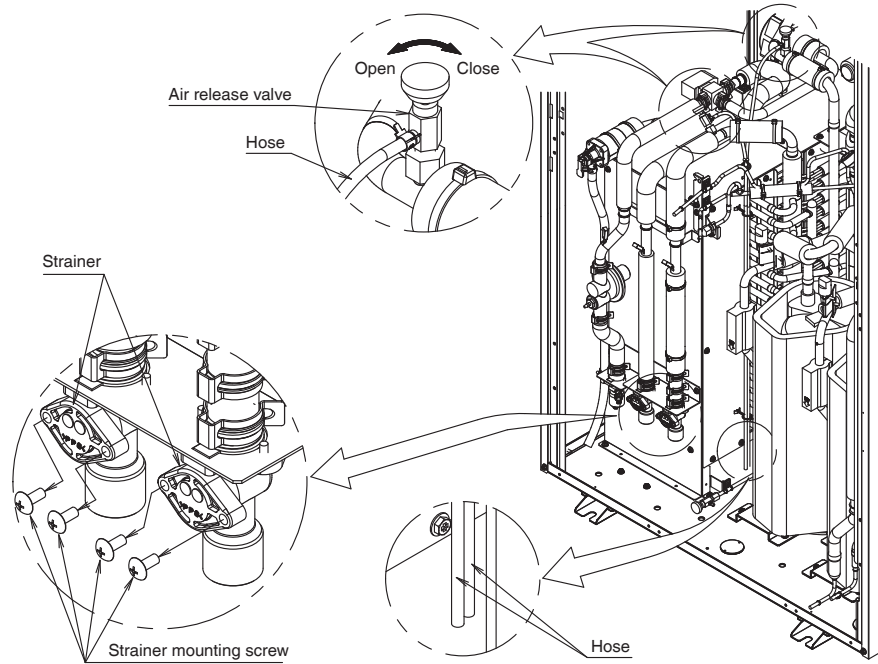

Fig. 36
- (1) Open the front panel (lower).
- (2) Open the gate valve of the circulating water piping and hot water piping between the cascade unit and the hot water storage tank to allow water to flow through the machine.
- (3) **Open both air release valves (refer to Fig. 36) to release air from the water piping in the cascade unit.**